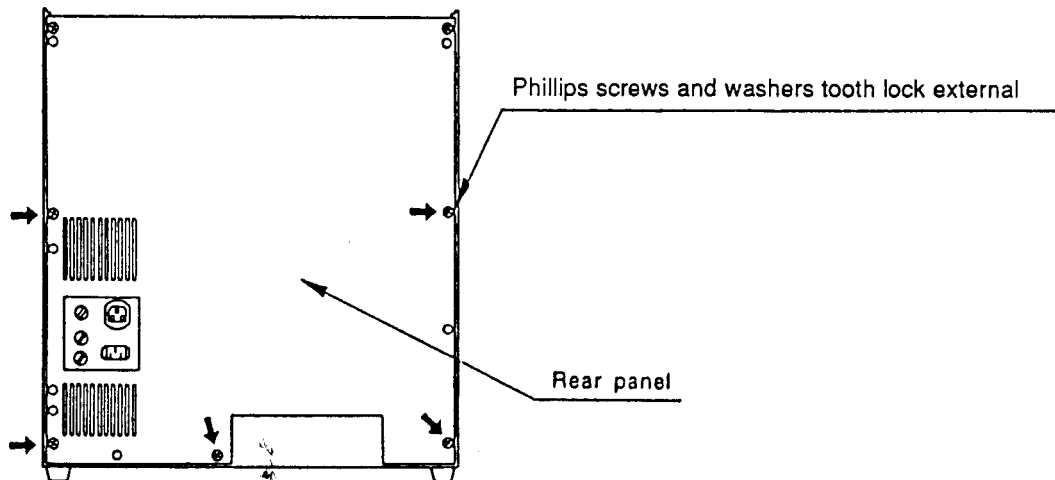

Figure 6-0-5 Removing 5 screws and washers
(3) Removing the Rear panel
A. Unscrew and remove five Phillips screws and washers tooth lock external indicated by arrows in Figure 6-0-5.